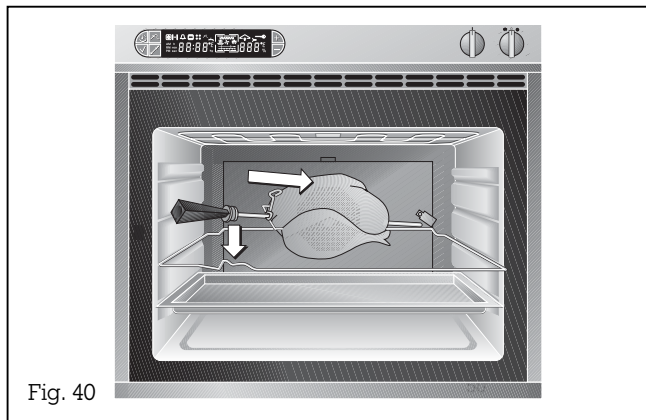

Fig. 40
- Fit the rotary spit in the rotary spit drive (Fig. 40). Unscrew the handle from the rotary spit and close the oven door.